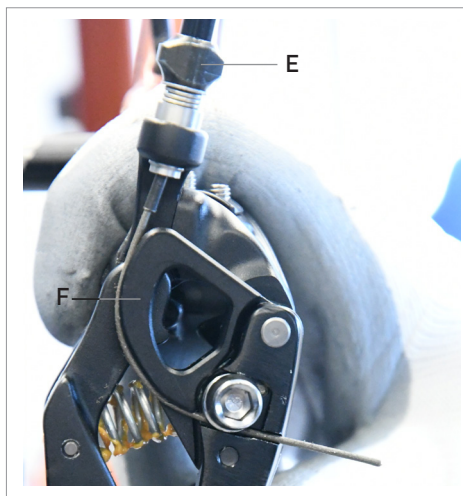
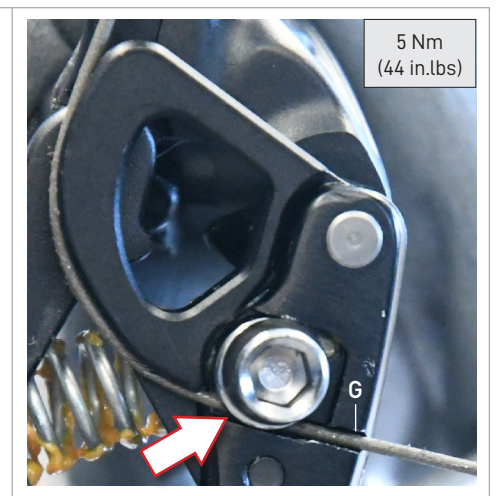

Fig.14
Fig.15
- Insert the cable into the cable tension adjuster (E - Fig.14), and pass it through the appropriate cam (F - Fig.14) and the recess (G - Fig.15) in the rear derailleur.